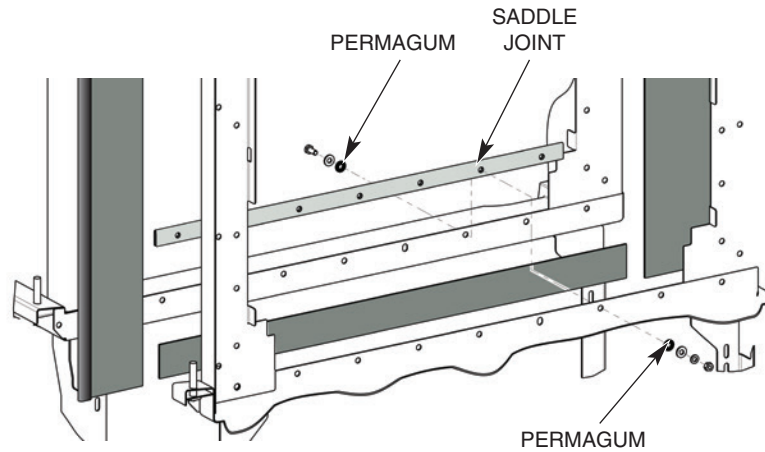

Fig. 12
4. Use Permagum on insides of washers on both sides to make an adequate seal (Fig. 12). You may have to use a C-clamp on the saddle to get the hardware started. Bolt the saddle joint to the bottom tank flanges with seven long bolts, washers, lock washers, and nuts provided.